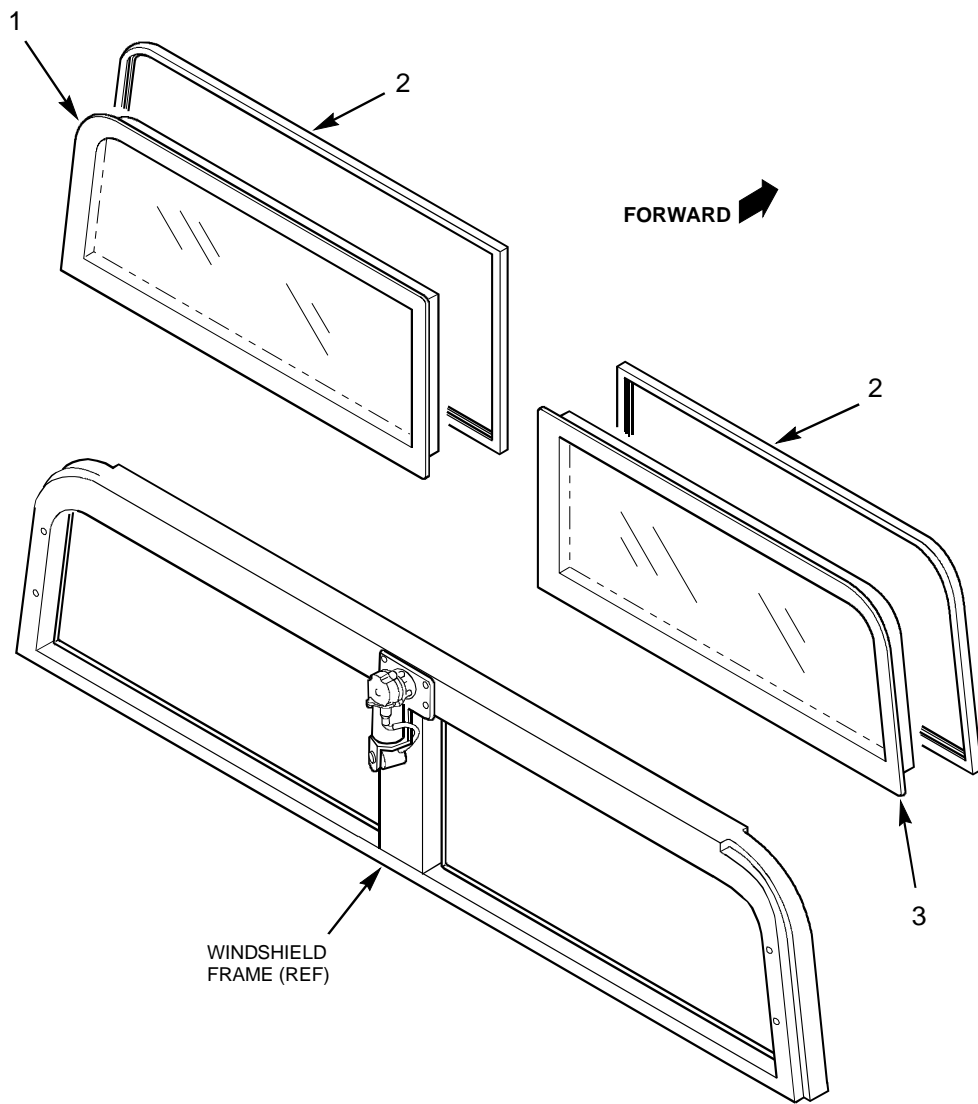

Figure 1-25. Windshield Glass Installation (2 and 4 Door)
1. Install windshield glass as follows (see figure 1-25).
- a. Install gasket (2) onto windshield glass (1) or (3).
- b. Install windshield glass (1) or (3), with gasket (2), into windshield frame.